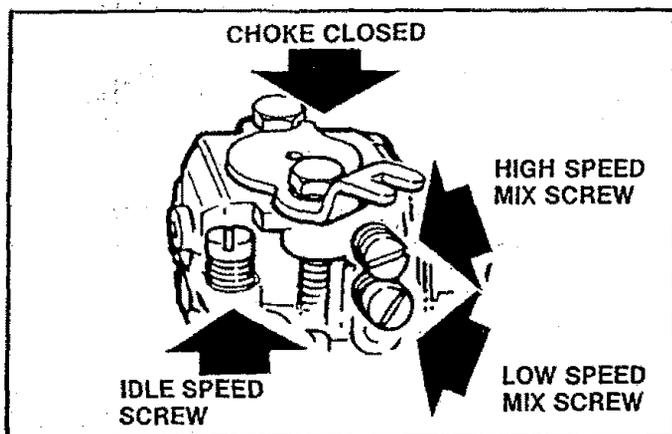

Figure 54
- Find the three (3) carburetor adjusting screws. Figure 54.